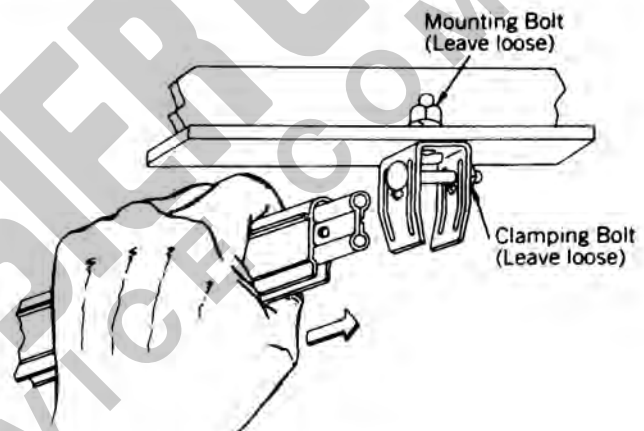

FIGURE 65
2. Slide the conductor bar into the hanger clamps. Refer to Figure 65. Start the conductor bar so that the first mounting bracket is 6" from the end.